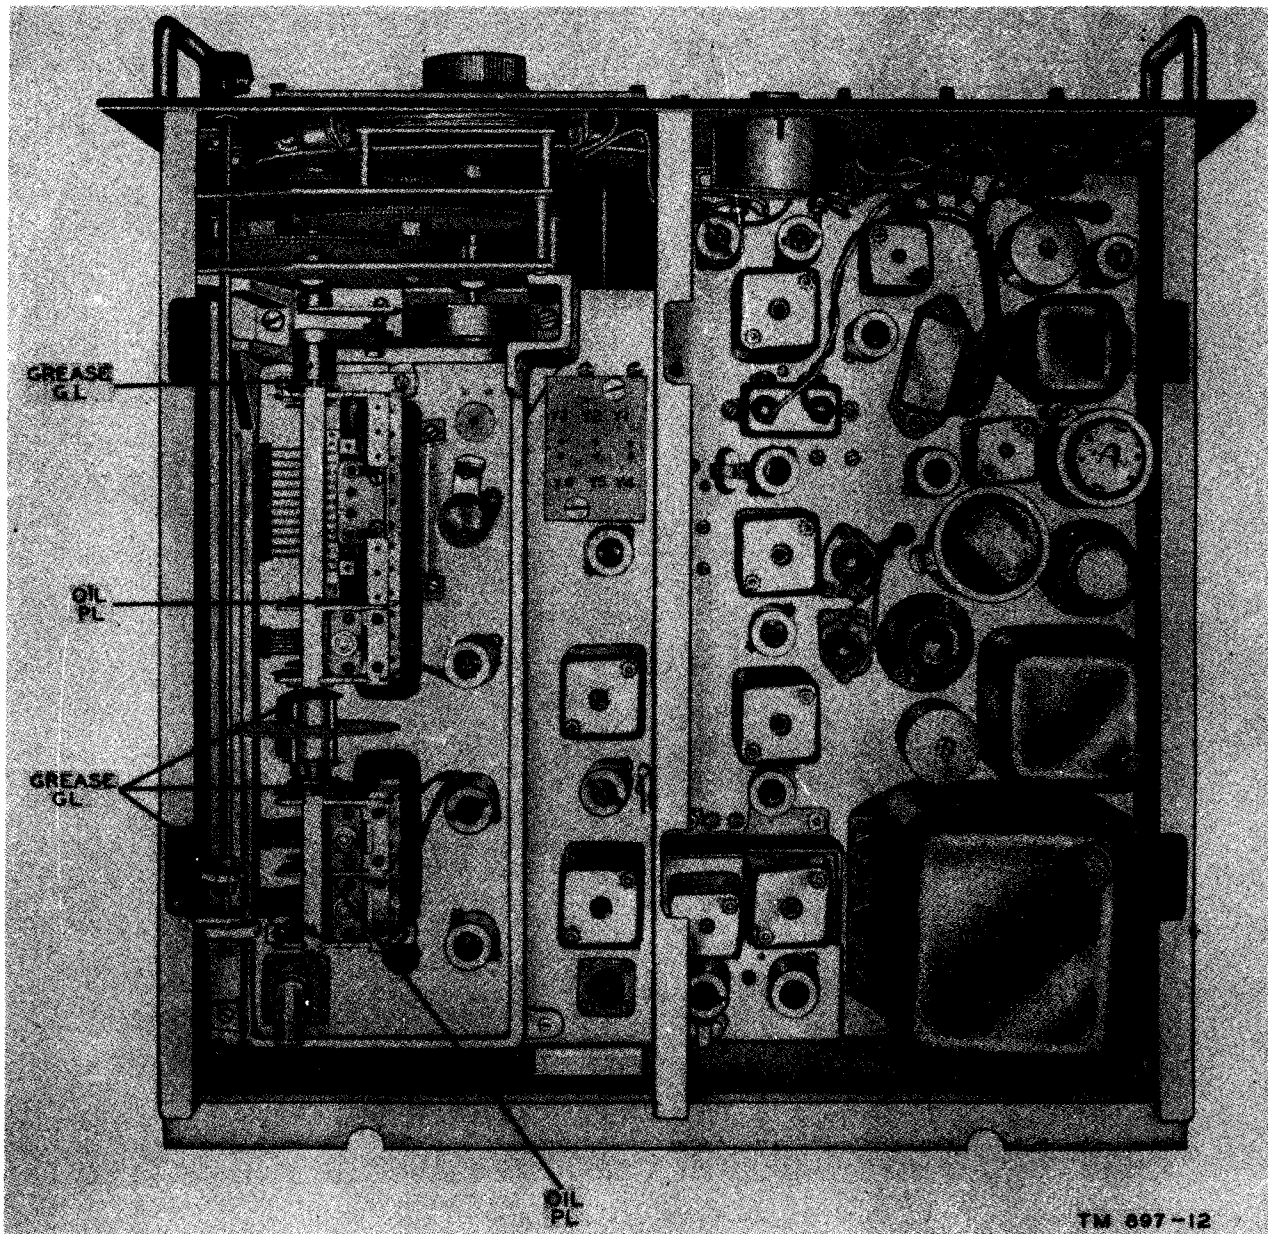

Figure 12. Lubrication of shafts, top of chassis.
*d. Gang Tuning Capacitors.* The bearings of tuning capacitors C1 and C2 require frequent lubrication, since they are probably the most used parts in the receiver. Figure 12 is a top view of the chassis, showing the points to be lubricated with grease. Dirt in these bearings may possibly cause noisy operation of the receiver.